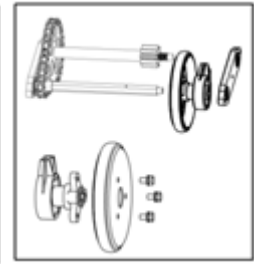

Fig. 27
5. Remove the three screws holding the friction wheel side plates together, replace only the rubber ring. See Figure 27.